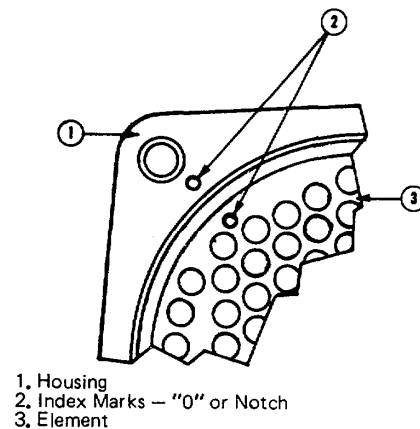

Fig. 7-8 (N10705) Aligning oil cooler index marks
2. Push element (3, Fig. 7-8) into housing (1), aligning index marks (2) on housing and element.